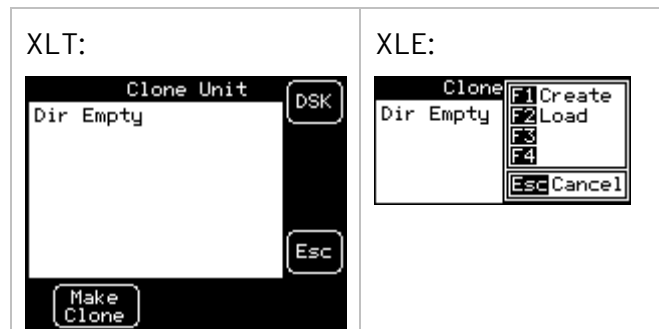

Figure 2 - Clone Unit Menu before Cloning
- a. In the above Figure 2, F3 and F4 are inactive in the Clone Unit.